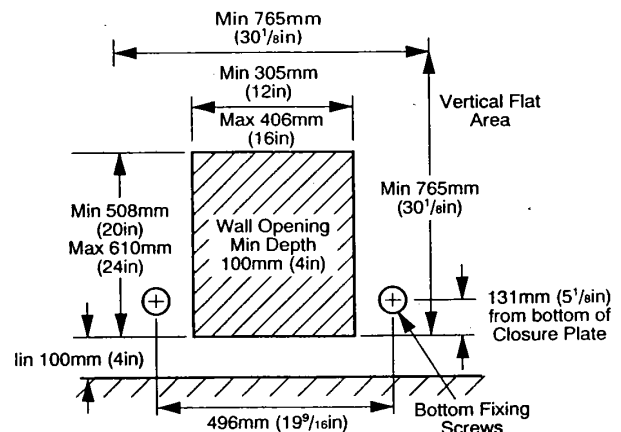

Fig. 4 Wall Fixing
(d) Wall Fixing: The fire may be fitted on to a suitable non-combustible wall so that the bottom of the rear legs is not less than 100mm (4in) above the finished floor level (Fig. 4).
- (c) Mark the position of the bottom two fixing screws then drill and plug the wall (Fig. 4).